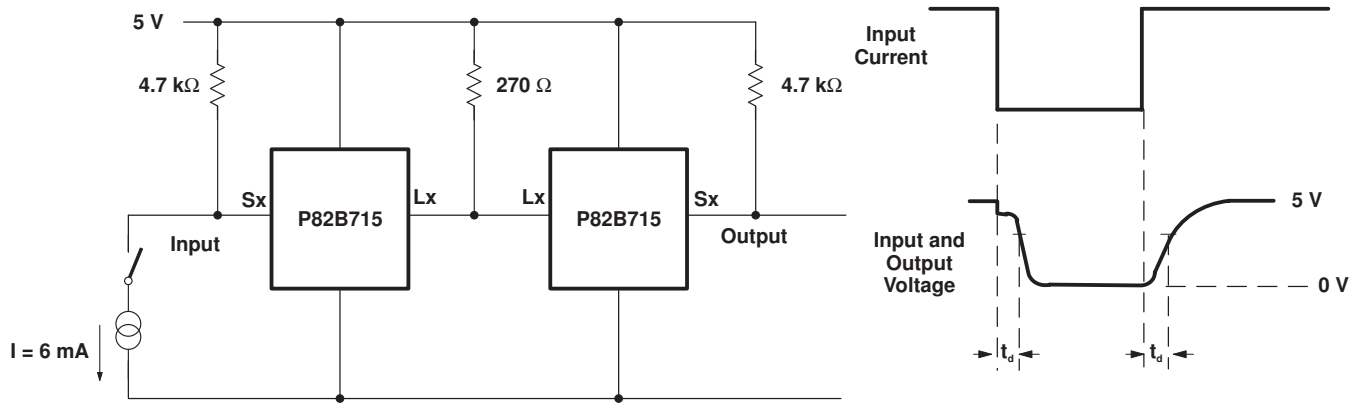

Figure 2. Test Circuit for Delay Times
- (1) A conventional input-output delay is not observed in the Sx/Lx voltage waveforms, because the input and output pins are internally tied with a 30- Ω resistor so they show equal logic voltage levels to within 100 mV. When connected in an I²C system, an Sx/Sy input pin cannot rise/fall until the buffered bus load at the output pin has been driven by the internal amplifier. This test measures the bus propagation delay caused to falling or rising voltages at the Lx/Ly output (as well as the Sx/Sy input) by the amplifier's response time. The figure given is measured with a drive current as shown in Figure 2. Because this is a dynamic bus test in which a corresponding bus driving IC has an output voltage well above 0.4 V, 6 mA is used instead of the static 3 mA.
- (2) The signal path Lx to Sx and Ly to Sy is passive through the internal 30- Ω resistor. There is no amplifier involved and essentially no signal propagation delay.